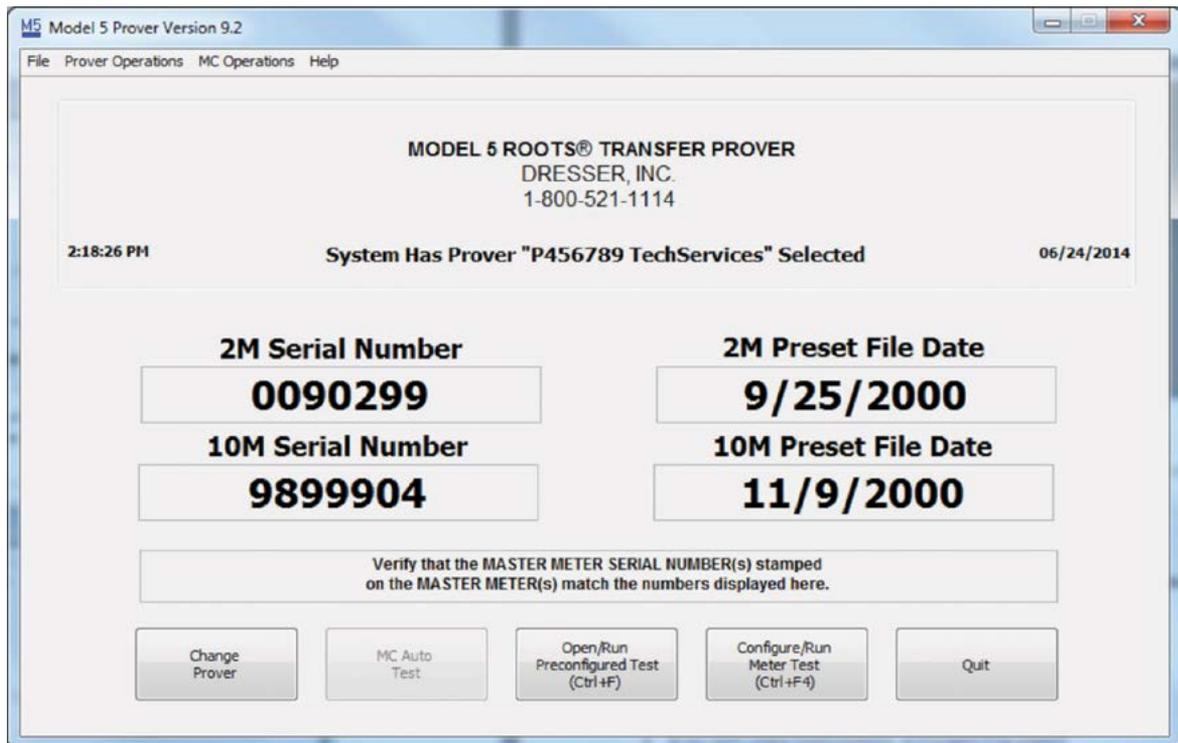

Figure 51: Program with Presets Loaded
5. Upon reopening the software, the main screen will be populated with the serial numbers of the master meters as well as preset file dates. Refer to **Figure 51**.